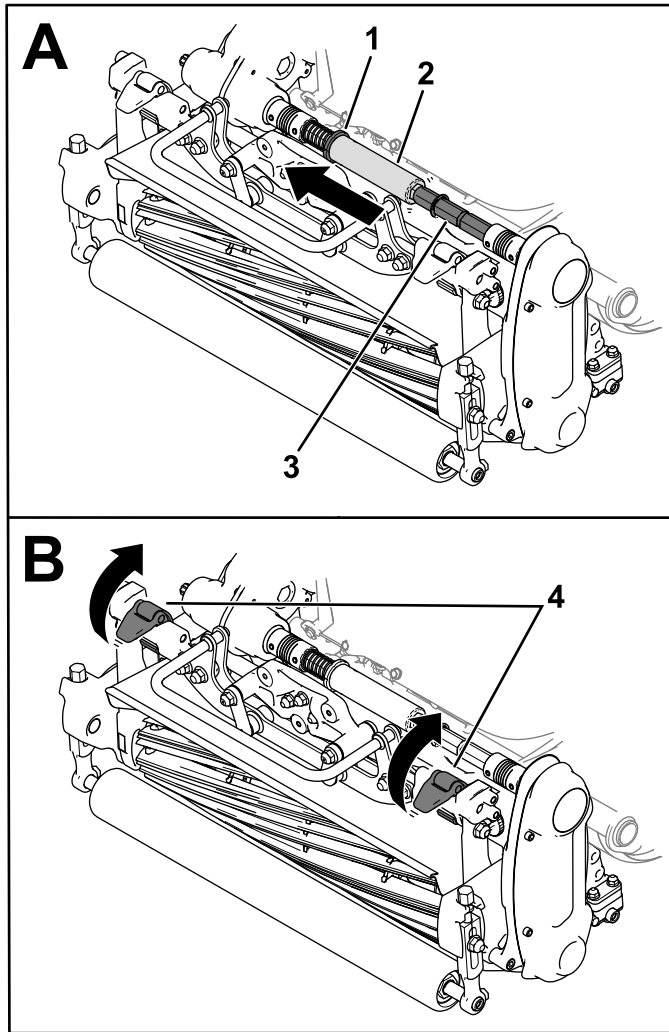

Figure 29
3. Move the collar (Figure 29) into the transmission-shaft groove.
4. Slide the hex tube off of the cutting-unit coupler shaft (Figure 29).
5. Move the suspension latches up to release the cutting unit from the machine (Figure 29).